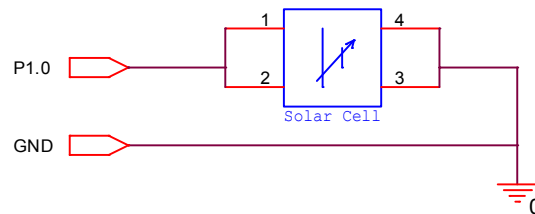

Fig. 3.2.1.a. Input module
- the module’s schematics is presented in Fig. 3.2.1.a.